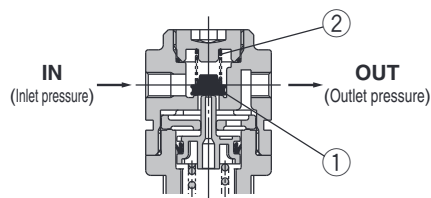
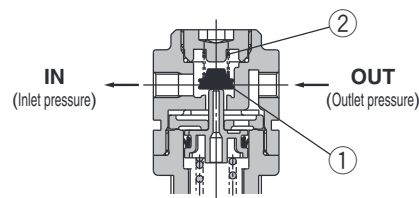

Figure 1
Figure 2
When the inlet pressure is higher than the regulating pressure, the check valve operates as a normal regulator (Figure 1). When the inlet pressure is shut off and exhausted, any inlet pressure applied to the valve ① will be lost. The force for seating the valve ① is the valve spring force ② only. When the valve ① is opened using the outlet force, the outlet pressure will be exhausted at the inlet side (Figure 2). When the set pressure is 0.15 MPa or less, the valve ① may not open due to the valve spring ② force.
When the inlet pressure is higher than the regulating pressure, the check valve ② closes and operates as a normal regulator (Figure 1). When the inlet pressure is shut off and released, the check valve ② opens and the pressure in the diaphragm chamber ① is released into the inlet side (Figure 2). This lowers the pressure in the diaphragm chamber ① and the force generated by the spring ③ lifts the diaphragm. The valve ④ opens through the stem, and the outlet pressure is released to the inlet side (Figure 2).